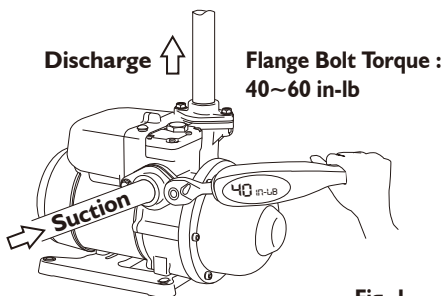

Fig. 1
3. Connect the suction pipe to the side and discharge pipe on the top.(See Fig 1)